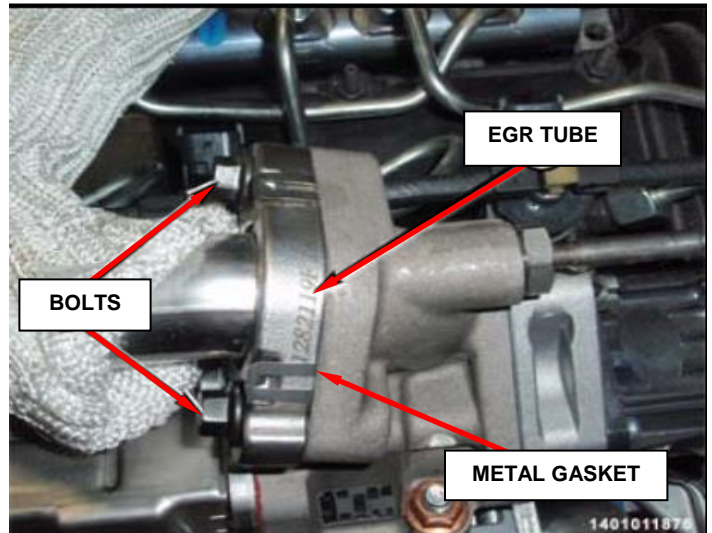

Figure 34 – EGR Tube
9. Remove the (2) EGR tube bolts (Figure 34).
11. Remove and discard the metal gasket (Figure 34).
30. Install a **NEW** EGR tube adapter pipe metal gasket (Figure 34).